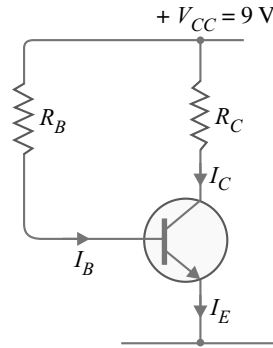

Fig. 7.59
3. Fig. 7.59 shows biasing by base resistor method. If it is required to set the operating point at 1 mA, 6 V, find the values of  $R_C$  and  $R_B$ . Given  $\beta = 150$ ,  $V_{BE} = 0.3 \text{ V}$ .  $[R_C = 3 \text{ k}\Omega, R_B = 0.3 \text{ M}\Omega]$